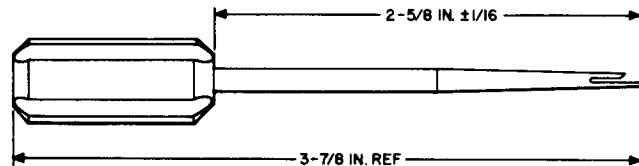

Fig. 10—671A Adjuster Tool
2.11 671A: The 671A tool (Fig. 10) is an adjuster used in applying magnetic separators to the Y-type relays. It replaces the D-167912 adjuster.